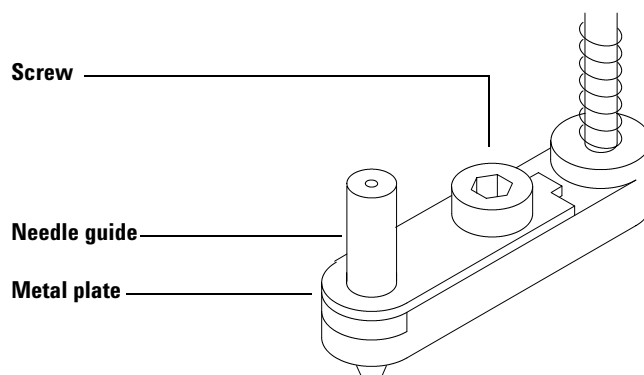

Figure 3 Removing the needle guide
- 1 Use the 2-mm Allen wrench from the needle support kit to remove the screw from the needle support foot (Figure 3).